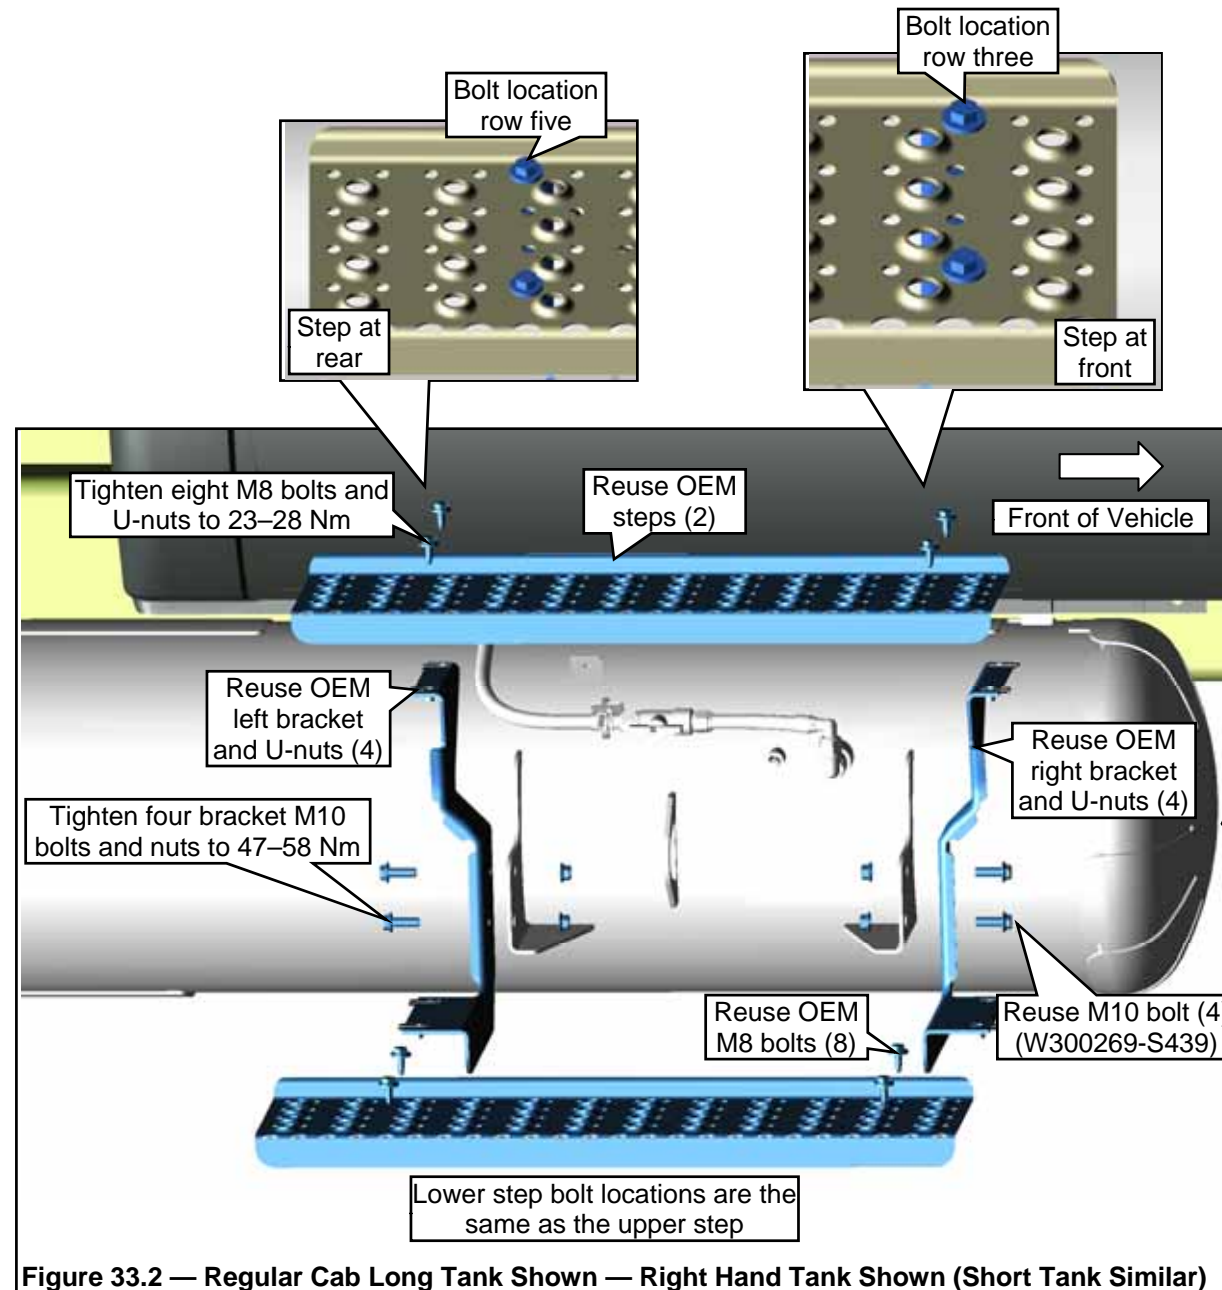
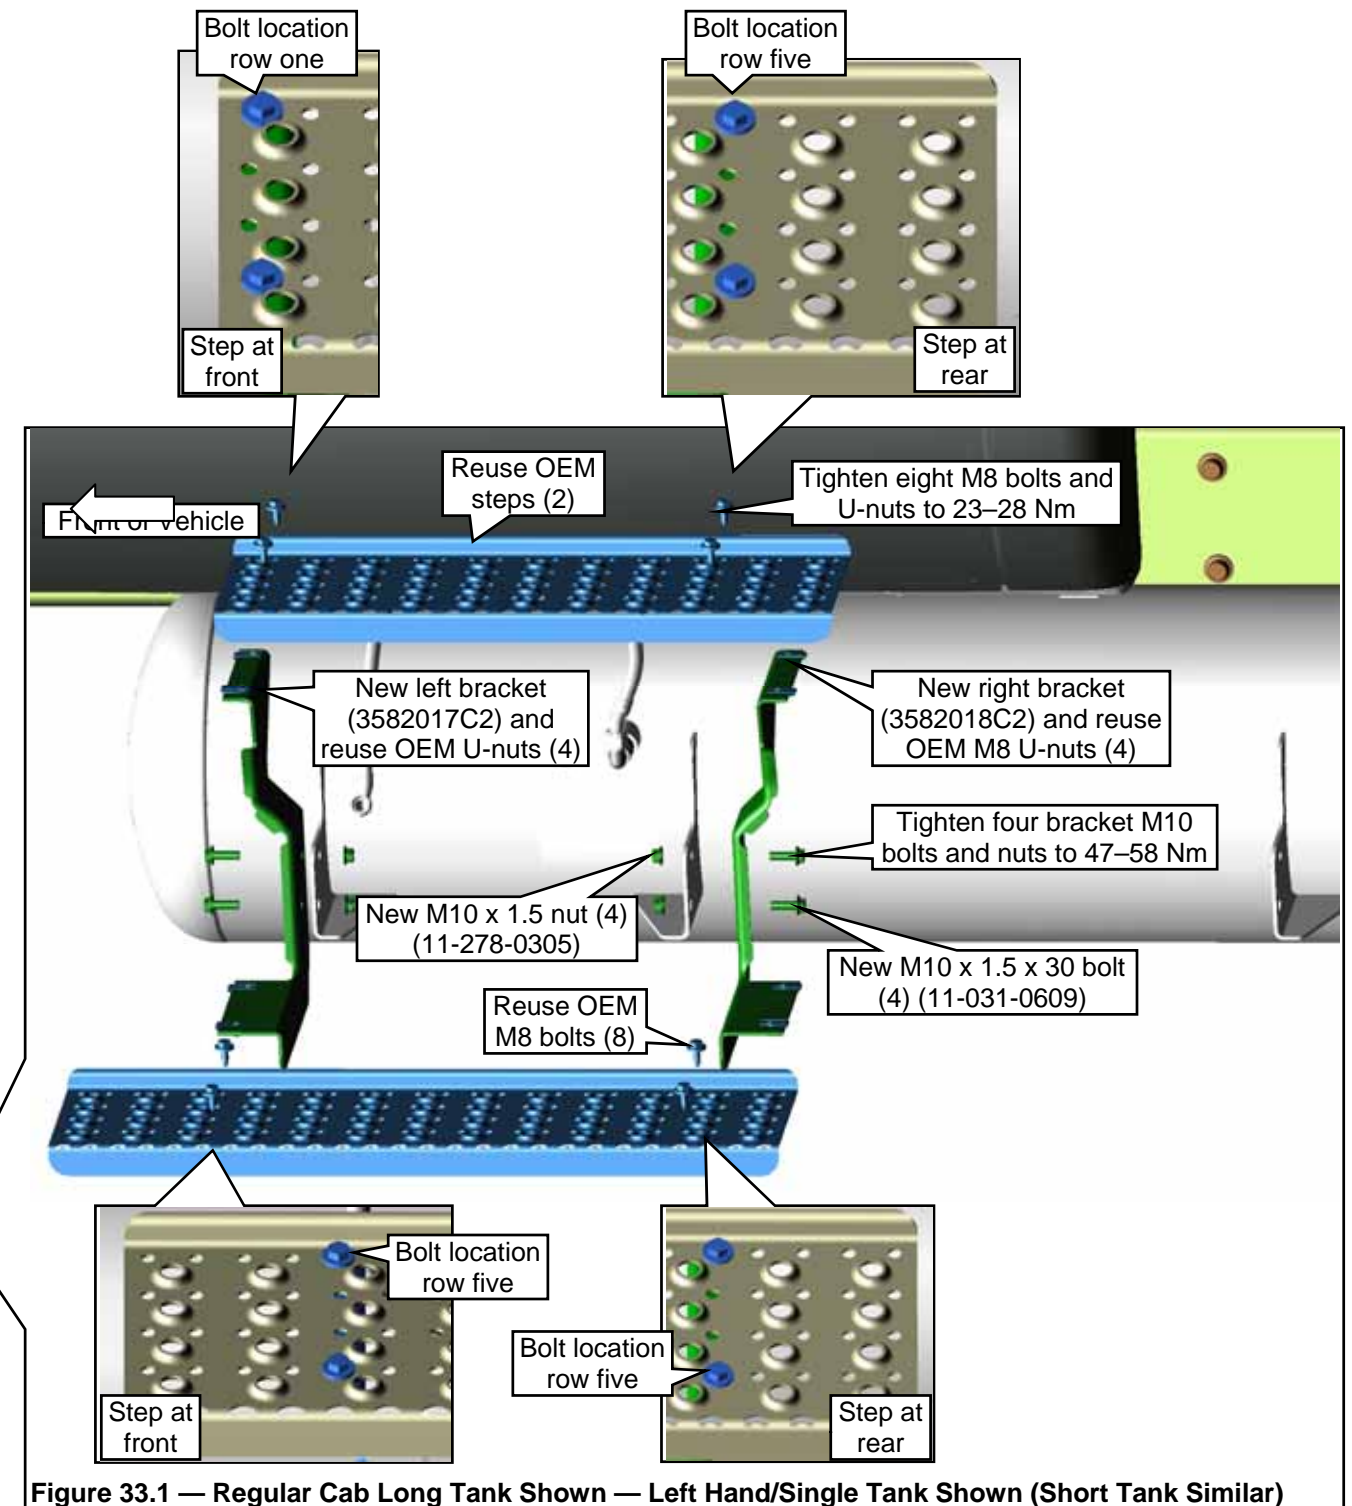

Figure 33.2 — Regular Cab Long Tank Shown — Right Hand Tank Shown (Short Tank Similar)
Figure 33.1 — Regular Cab Long Tank Shown — Left Hand/Single Tank Shown (Short Tank Similar)
1. Attach the new left and right step brackets to the step weldments on the left hand/single tank. Use four new M10 x 1.5 x 30 bolts and nuts for the two new step mounting brackets. **Figure 33.1**. The right side tank steps, brackets, U-nuts, bolts and nuts are reused from the OEM. **Figure 33.2**.
2. Reuse the OEM M8 bolts and U-nuts. Install the U-nuts into the left and right step brackets of the left hand/single and right hand tanks. Reuse the OEM upper and lower steps at the left hand/single and right hand tanks. Position the steps to the step brackets. Install the bolts through the steps into the U-nuts to secure the steps. Bolt locations for the upper and lower steps of the RH tank are the same. Bolt locations for the steps of the LH/single tank are the same for upper and lower rear, but different for the upper and lower front. Tighten all fasteners to specification. **Figures 33.1 and 33.2**.